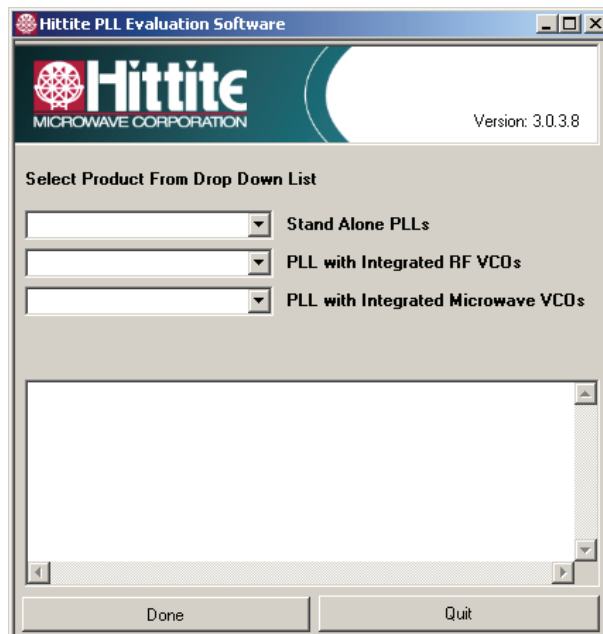

Figure 2. Hittite PLL Product Selection Window
1. Launch the “Hittite PLL Eval Software” file from Start, All Program Files menu on your PC, or from your Desktop. Hittite PLL Evaluation Software Selection Window shown in Figure 2 will appear. From the drop down list, select the part under test.